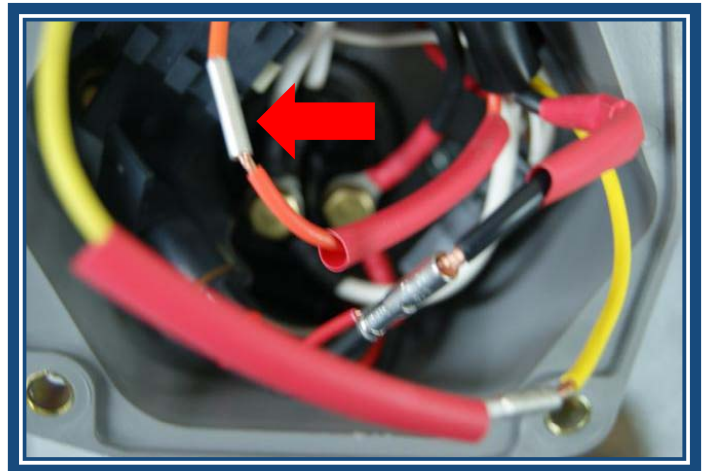

Figure 26
**Step 26:** Route the orange wire of the fuse assembly (F) from the 7-way nose box to the dual pole nose box. Cut the orange wire of the fuse assembly to length to be able to connect to the orange wire(3) of the main harness. Strip the end of both of the orange wires approximately ¼". Slide a piece of the red heat shrink over the wire. Insert the stripped wires into the butt connector from the bag kit, crimp and solder. Place heat shrink over connection and apply heat. (See Figure 26)